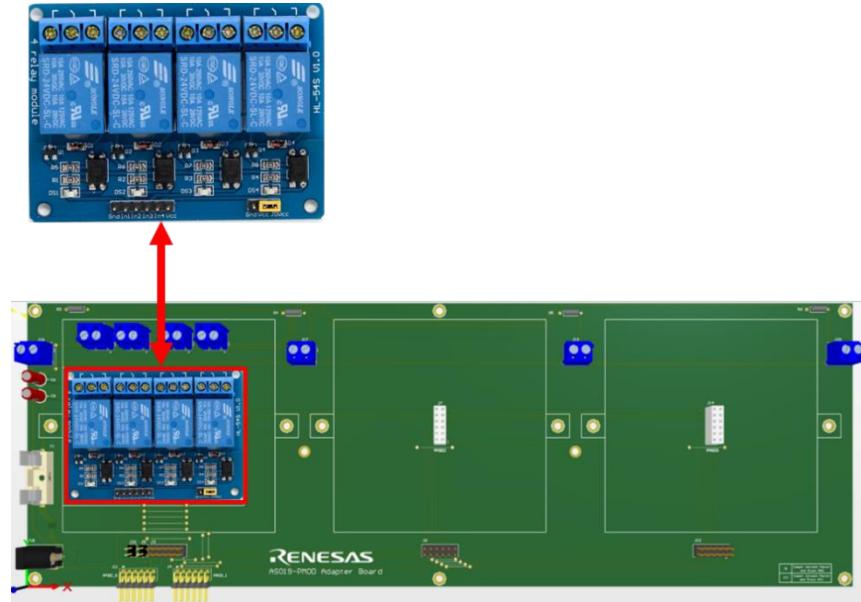

Figure 3. Relay Card Connections with AS019PMODEXP-POCZ board.
2. To connect the relay card with board, insert the male burg stick connector on relay card into the J2 connector on expansion board. (As shown in Figure 3)